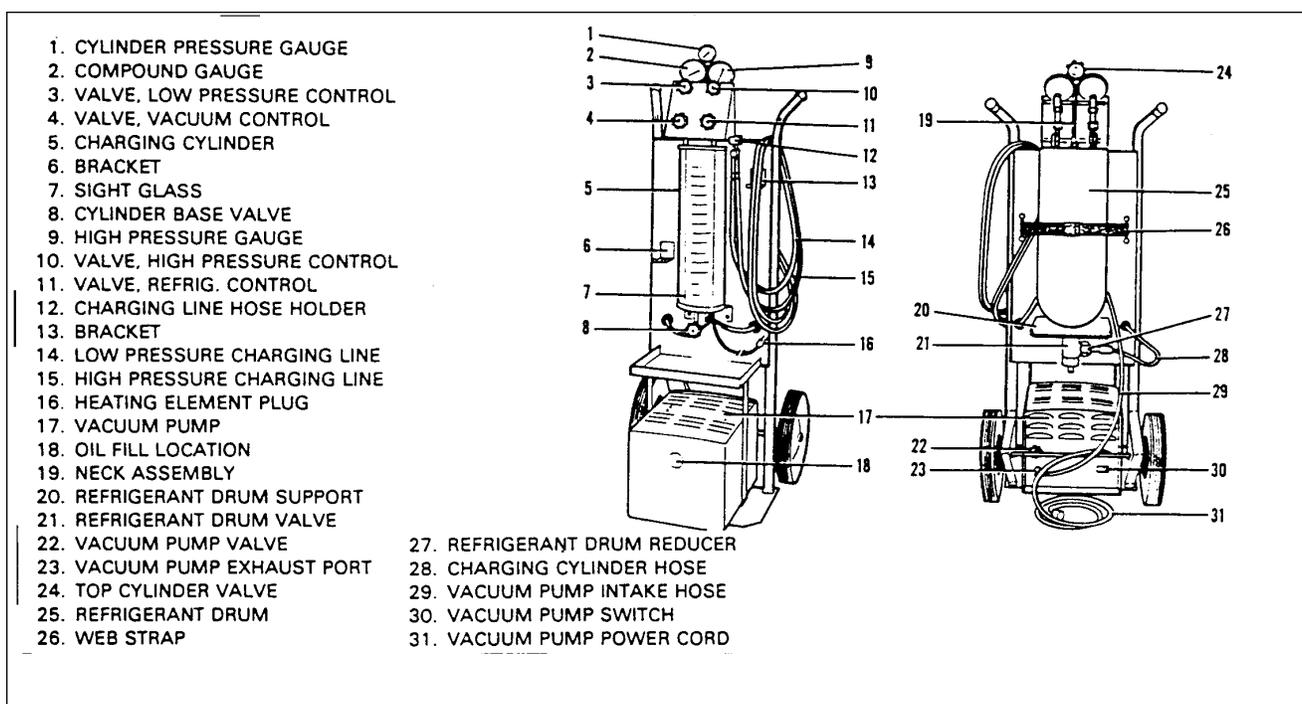

Figure 21-8. Charging Stand
*Applies to Kent Moore J23500 or similar charging station. (Refer to figure 21-8.)*
- I. Close all valves on charging station. (Refer to figure 21-8,)
*The following instructions apply to Kent Moore, J23500 charging stand. (Refer to figure 21-8.)*